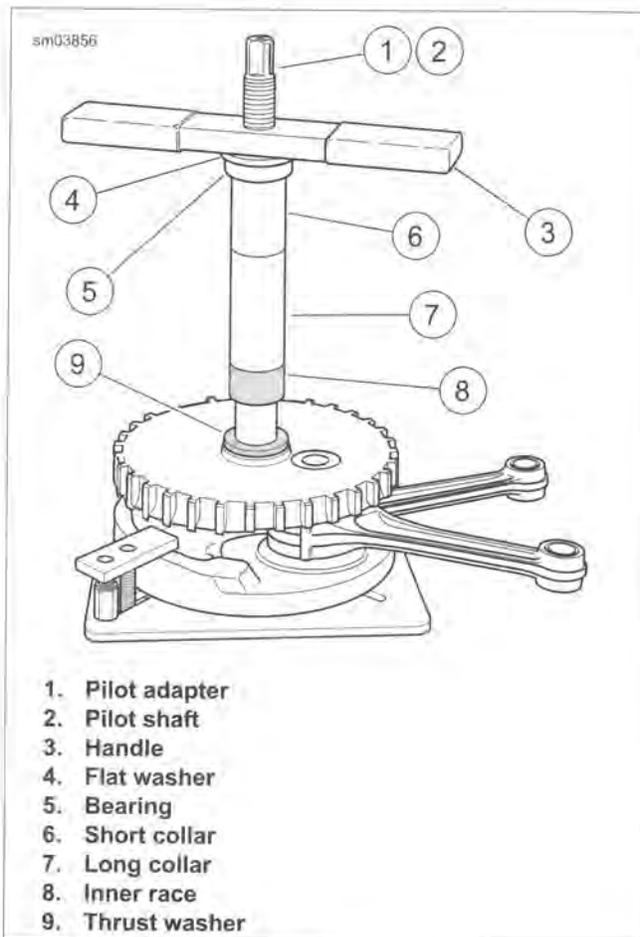

Figure 3-132. Press Inner Race onto Sprocket Shaft: Setup
- g. See Figure 3-132. Thread handle onto pilot shaft.